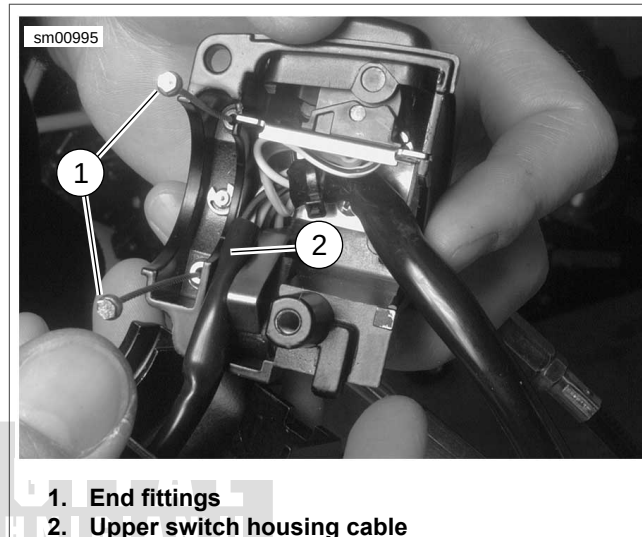

Figure 7-52. Route Cable to Upper Switch Housing
8. See Figure 7-52. Route the cable to the upper switch housing as shown.